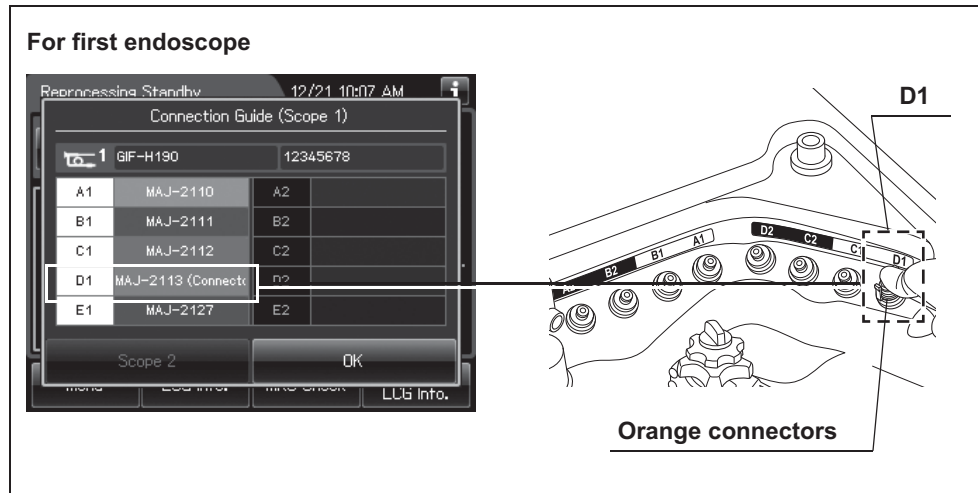

Figure 6.22
- 3 Insert the reprocessor-side connector of the MAJ-2138 connecting tube into the connector of the same color (refer to the Connection Guide screen) of the reprocessing basin by pushing in until it clicks. For detail, refer to Figure 6.22.